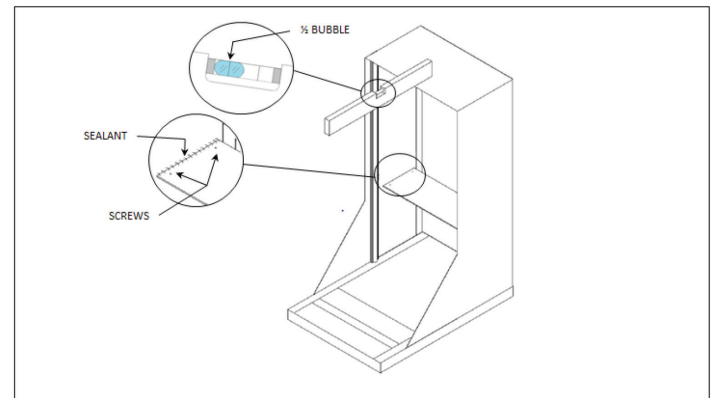

Figure 3
1. Check pitch of sleeve. Must be pitched at least 1/2 bubble (.35"/ft) to outside. (Figure 3)